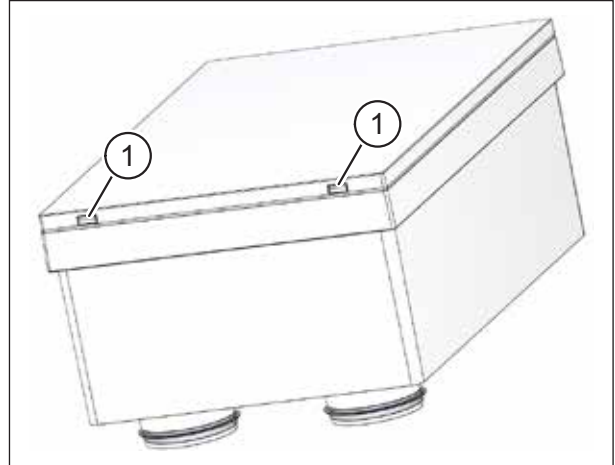

Fig. 32: Removing the cover from the ventilation unit
- ▶ Using both thumbs, press the two latches (item 1 in Fig. 32) on the bottom of the ventilation unit. The unit cover will come away.